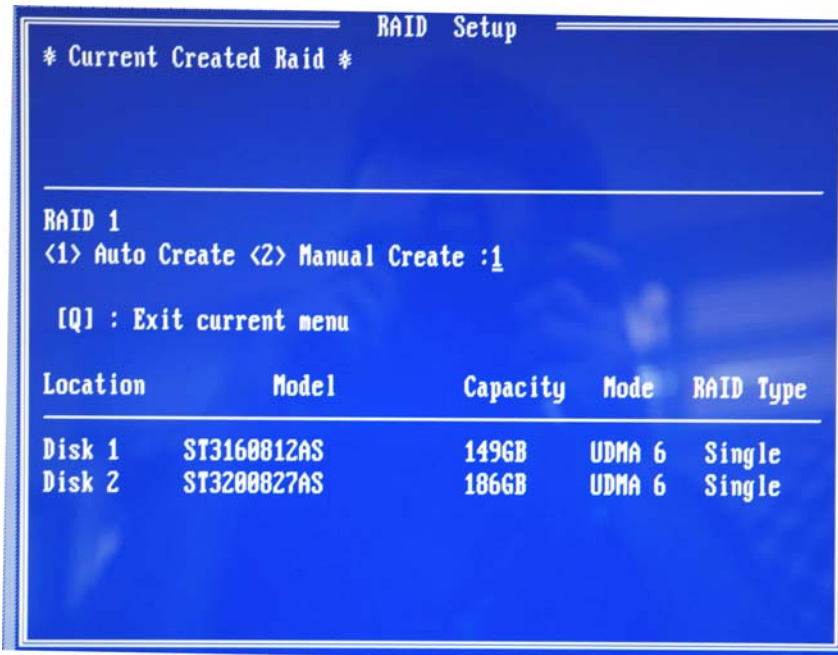

Figure E-7: Select “Auto”
Step 6: You will then be prompted to “Auto Create” or “Manual Create” (Figure E-7).